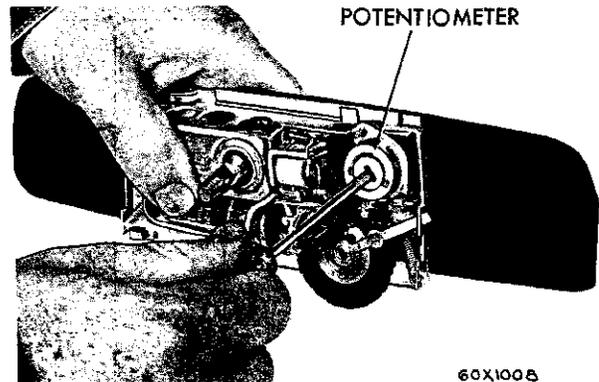

Fig. 22—Adjusting the Potentiometer
(2) If the sensitivity was incorrect, adjust potentiometer by turning clockwise to increase, counter-clockwise to decrease (Fig. 22).